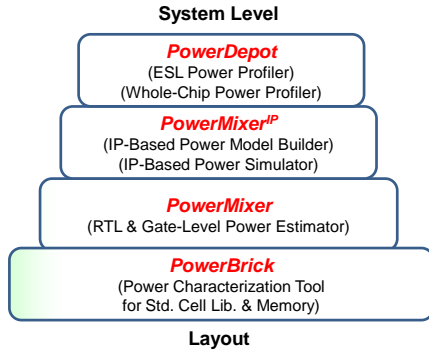

Fig. 1: Our power analysis framework.
As shown in Fig. 1, we have developed four power analysis tools: (1) *PowerBrick*, a power characterization tool to construct power libraries for standard cell library and memory compiler, (2) *PowerMixer*, an RTL/gate-level power estimator for large logic design, (3) *PowerMixer^{IP}*, an IP-based power model builder to build power models for general IPs as well as processor IPs, and (4) *PowerDepot*, an ESL power estimation tool to enable super-fast system-level SoC power estimation. Equipped with these highly automatic tools, one is able to drastically reduce the effort and time spent in building the power analysis environment for SoC designs. The simulation speedup can be up to 2,400X comparing with traditional simulation methodology, while retaining very high accuracy.